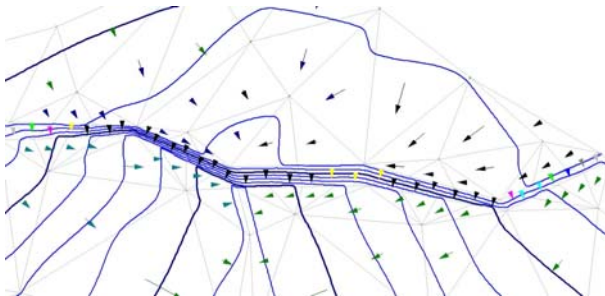

Figure 14-16. Slopes of Triangles Marked with Arrows
1. Select the arrow head, angle, and length from the drop-down menus (Figure 14-16).